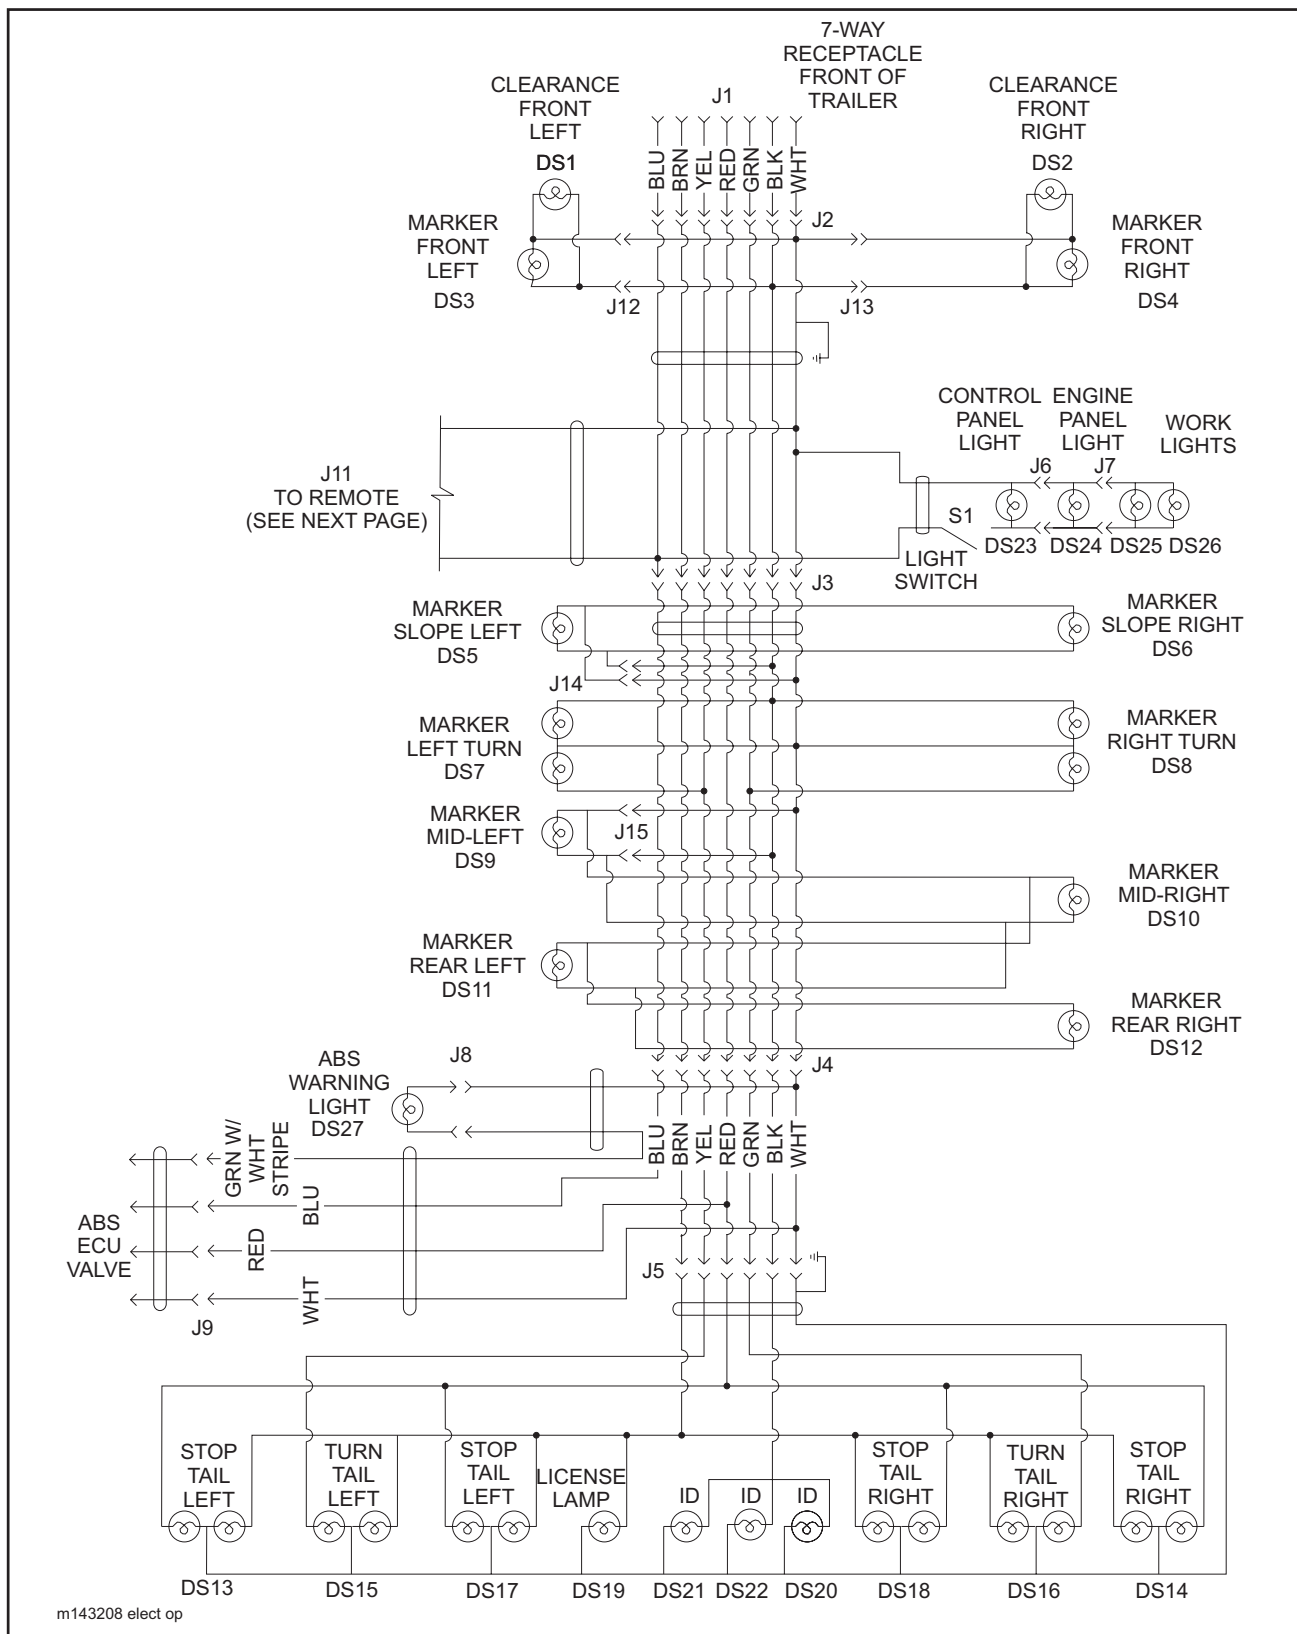

Figure 4-3 410/425/435 Wiring Diagram
- 4-5.1** Maintenance of the electrical system consists of inspection and minor servicing. Any wire, connection or electrical component showing signs of corrosion, wear, breakage or unraveling must be repaired or replaced. (See Figures 4-3 and 4-4 for electrical wiring diagrams and Table 4-4 for wiring parts list)